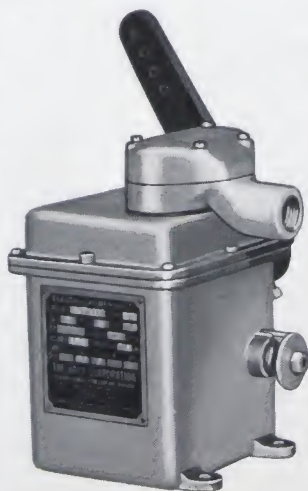

Figure 14
**POWER UNIT (Figure 14):** The operating mechanism of the Hays Power Unit (EA-18 or EA-50) consists of a small shaded pole type induction motor, a set of reduction gears and the necessary limit switches, all completely enclosed and oil-immersed in a weather-proof alloy case which may be mounted in any position. A suitable lever for clamping on the shaft and two female clevises for standard pipe are included. The shaded pole motors are without brushes, slip-rings, commutators or wound rotors. The gears are of high grade steel, ground and hardened for long life. These power units have manually adjustable speed regulators and the motors are reversible.